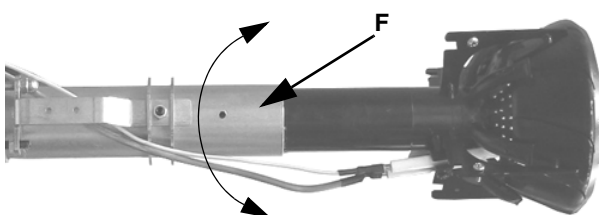
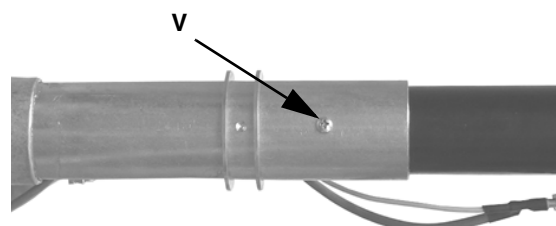

Fig. 19
Fig. 20
- 4 Extract the blast tube from the flanged piece and assemble it in the other way round as shown in pictures Fig. 19 and . Now fasten the two pieces using the same screws.
- 5 Take off the flange and the combustion head together (Fig. 19).
- 7 Unscrew the **V**, rotate the head of 180 ° along its axis as shown inL Fig. 19), until the hole **F** is found. Fit the screw again(Fig. 19 - Fig. 20).